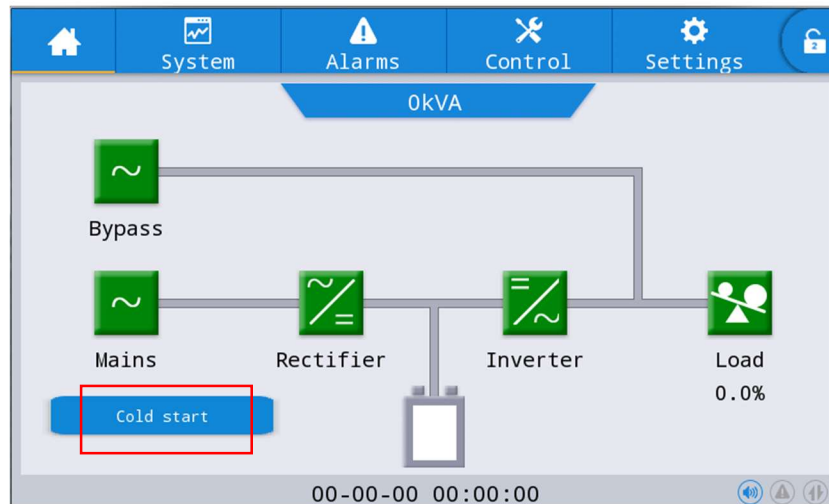

Fig. 5-1 The cold start button in LCD
2. Close the internal battery breaker (16).
4. After that, press the button for cold start on the LCD, as shown in Fig. 5-1. The UPS will start up and the system transfers to battery mode in 30S.
5. Close the output breaker (13) to supply the load, and the system is working on battery model.